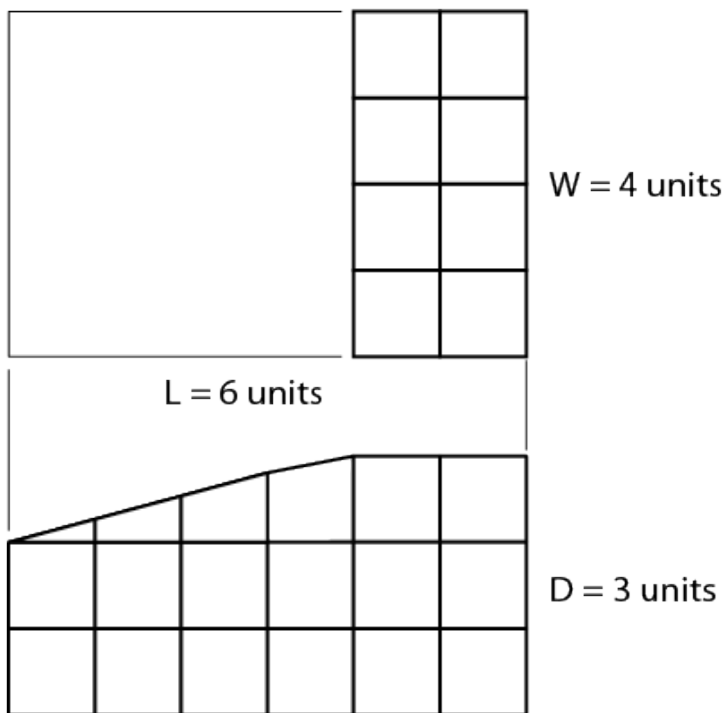
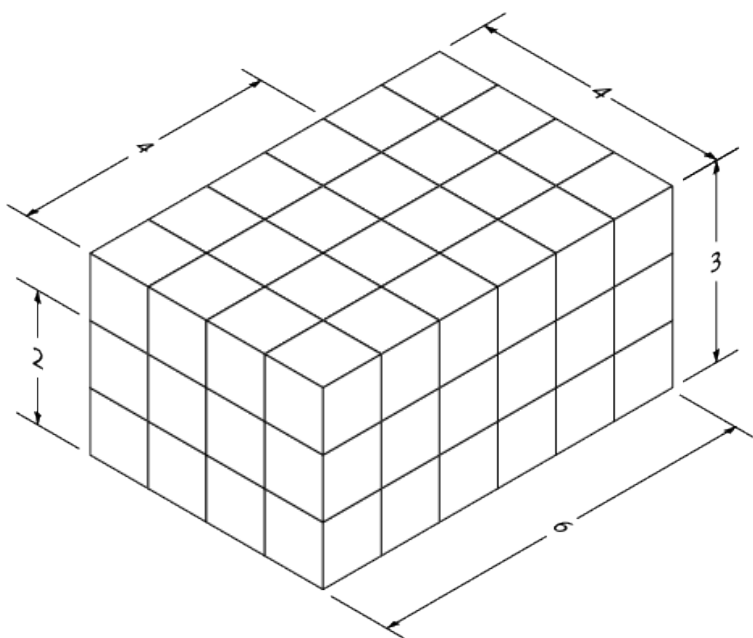

Figure 21 – Rectangle with face machined at an angle
Figure 22 – Rectangle with units marked along L and D
Figure 21 shows an object that is basically rectangular but has one face machined at an angle. You can easily construct an isometric sketch of the basic rectangular block. To show the machined face, it is necessary to plot the appropriate points of intersection and join those points to produce the correct angle.
Sketch a light outline of the basic rectangular block, using the size measurements given in Figure 21. Mark the number of units indicated along the length (L) and the depth (D), as shown in Figure 22.